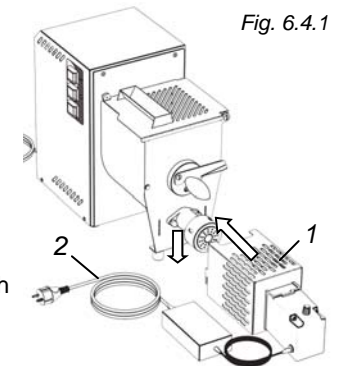

Fig. 6.4.1
- 1 - Fit the dough cutter "1" (fig 6.4.1) to the machine by inserting it in the slits at the sides of the product outlet.
- 2 - Plug the connector "2" (fig. 6.4.1) into the connector "3" (fig 6.4.1)
- 4 - Use the potentiometer "4" (fig 6.4.1) to vary the rotation speed of the cutter so as to cut the dough to the desired length